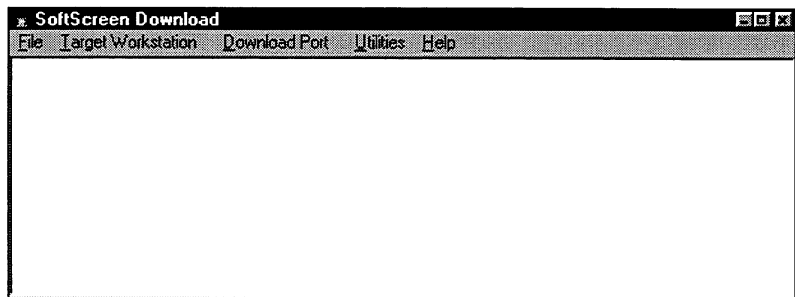

Figure 12-11. *SoftScreen Download Window*
1. Double-click on the SoftScreen Download utility icon to access the SoftScreen Download window, as shown in Figure 12-11.